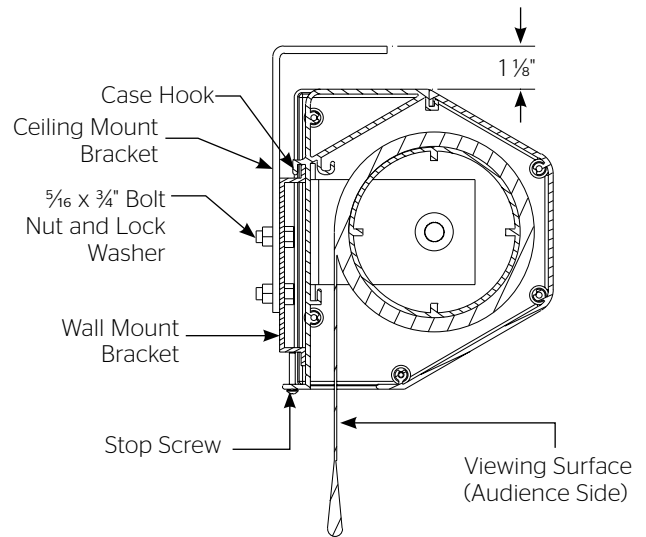

Figure 3
4. Mount the screen on the wall bracket as shown in figure 3. Be sure the case is fully seated on the bracket. Tighten the stop screws against the wall bracket.